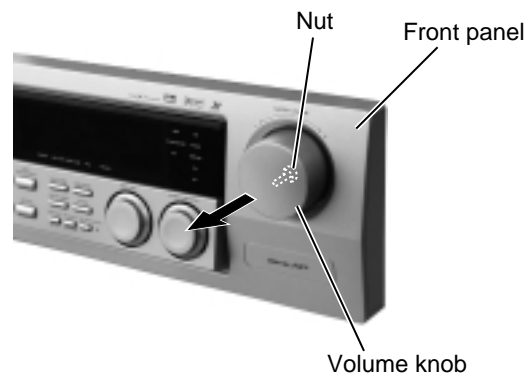

Fig.20
■ Removing the system control board / power switch board (See Fig.20 to 21)